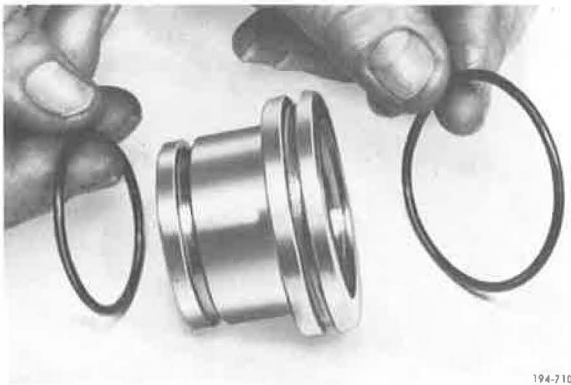

Figure 5-367. Removing O-rings
22. Remove o-rings from Direct piston. See Figure 5-367.